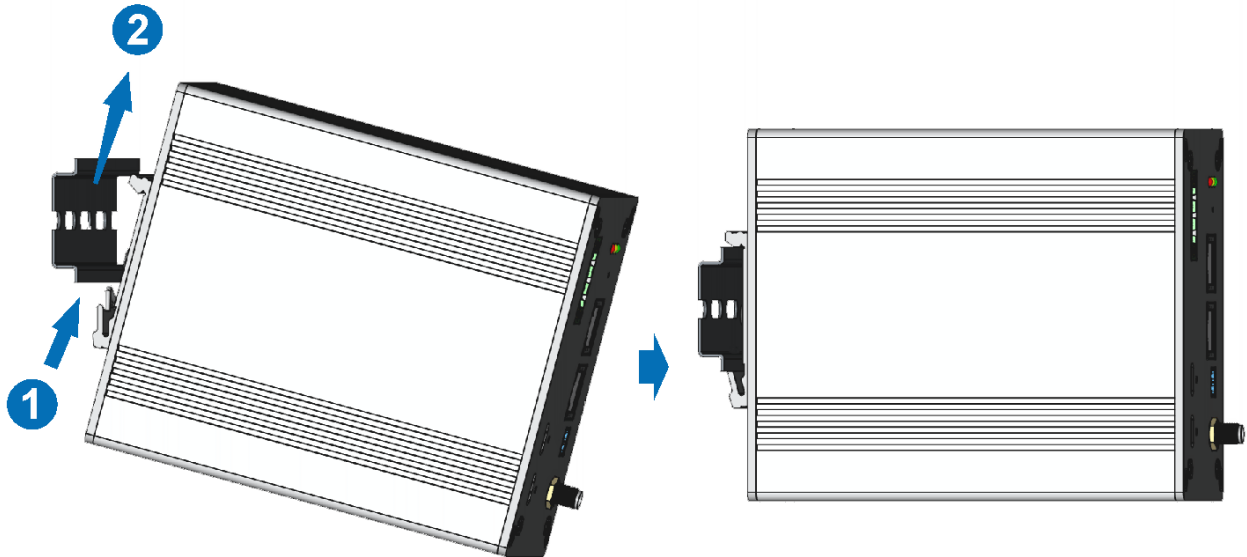

Figure 5
2. **Snap into place:** Push the module upward and press it toward the DIN rail until it latches securely into place at the back (see Figure 5)